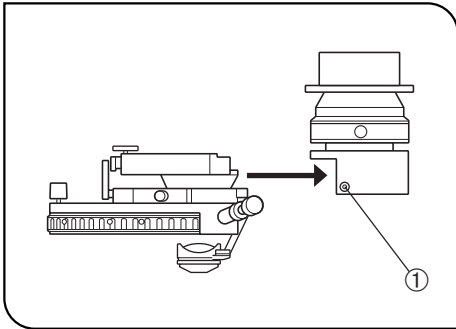

Fig. 95
(Figs. 95 & 96)
1. Using the Allen screwdriver, loosen the two setscrews ① on the IX-ADUCD UCD adapter. (Fig. 95)
3. Tighten the two setscrews ① using the Allen screwdriver. (Fig. 95)